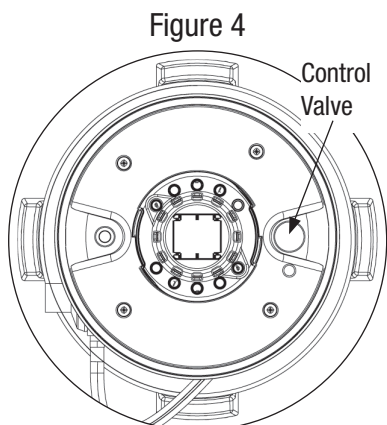

Figure 4
6. Press and hold control valve button (Figure 4).